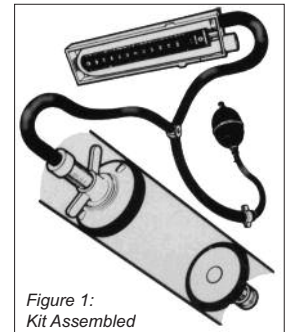

Figure 1:
3. Connect the Hose, Bellows, 'T' Piece and Plug as shown in figure 1.